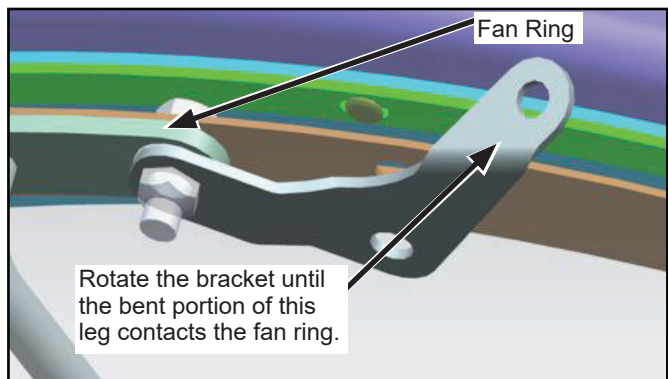

Figure 5 (shown after correction)
7. Rotate the bracket down until the bend in its lower leg contacts the fan ring. Refer to the illustrations in Figures 5 and 6.